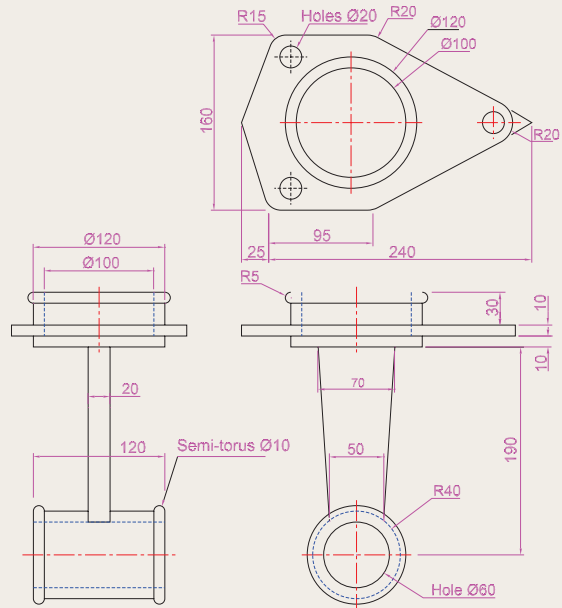

Fig. 15.52 Exercise 3
- A three-view drawing of a hanging spindle bearing in third angle orthographic projection is shown in Fig. 15.52. Working to the dimensions in the drawing construct a 3D model drawing of the bearing. Add lighting and a material and render the model.